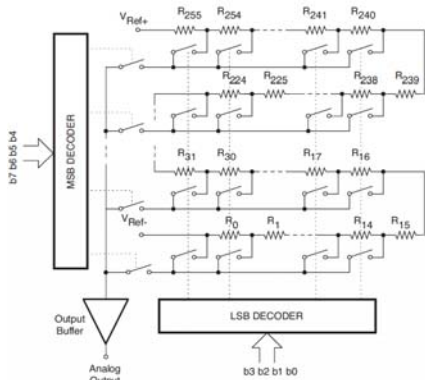

Figure 3.6. Resistive DAC with X-Y addressing scheme.
- Fig. 3.6: 256 unity resistances divided into 16 lines.